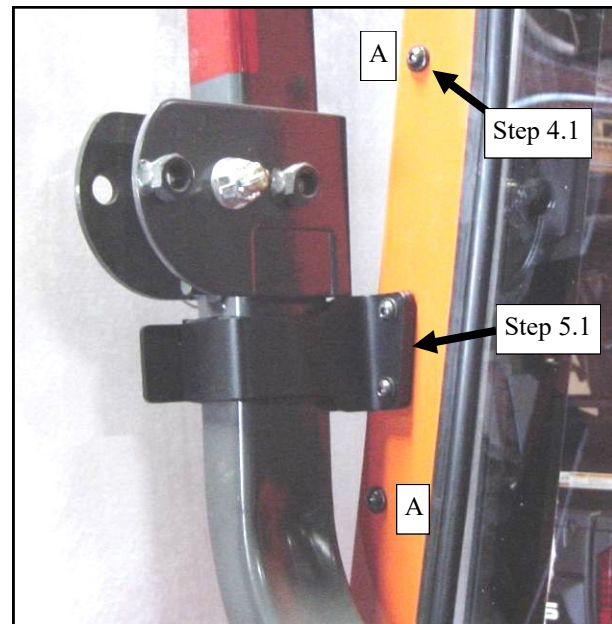

Fig. 4.1 (View of left side of tractor)
4.1 See fig. 4.1. Use the following hardware to attach the hard rear panel to the back side of the side frames at location "A" (2 places per side of tractor): four 5/16" x 3/4" long hex flange bolts, four plastic washers, and four flange locknuts. Do not tighten the bolts. Repeat for right side frame.